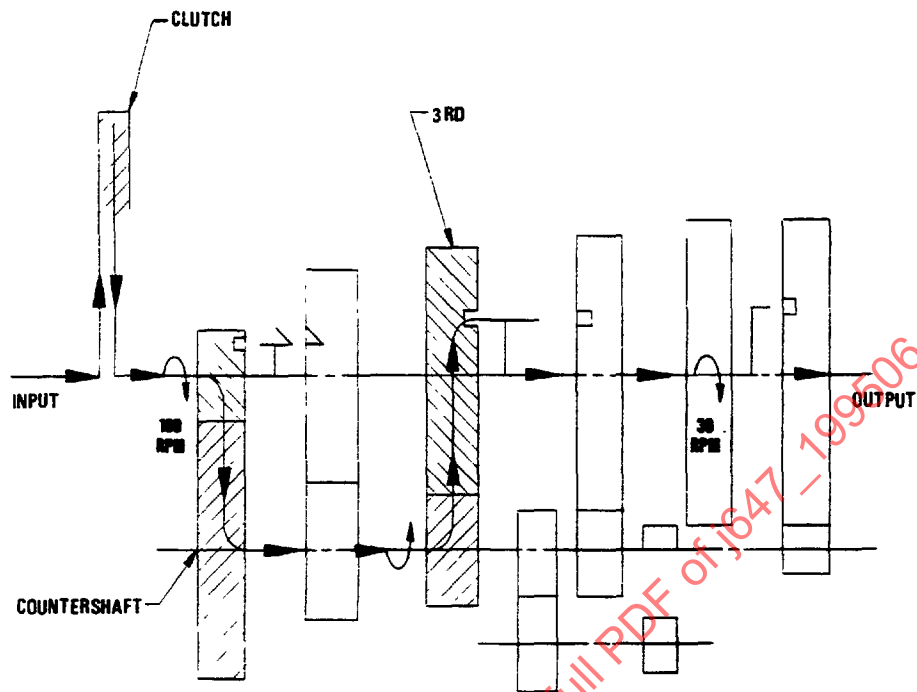

FIGURE 5—FIVE-SPEED TRANSMISSION DIAGRAM—3RD SPEED
4.1 Figures 5 and 6 illustrate the countershaft transmission and the planetary gear transmission in gear with the torque path denoted by straight bold arrows. Curved arrows indicate direction of shaft rotation. Active members are designated with sections crosshatched.
4.2 Countershaft Transmission (Figure 5)—In third, for example, the mainshaft third gear is clutched to the output shaft. This is schematically illustrated by means of the drive dog engaging the slot in the gear.